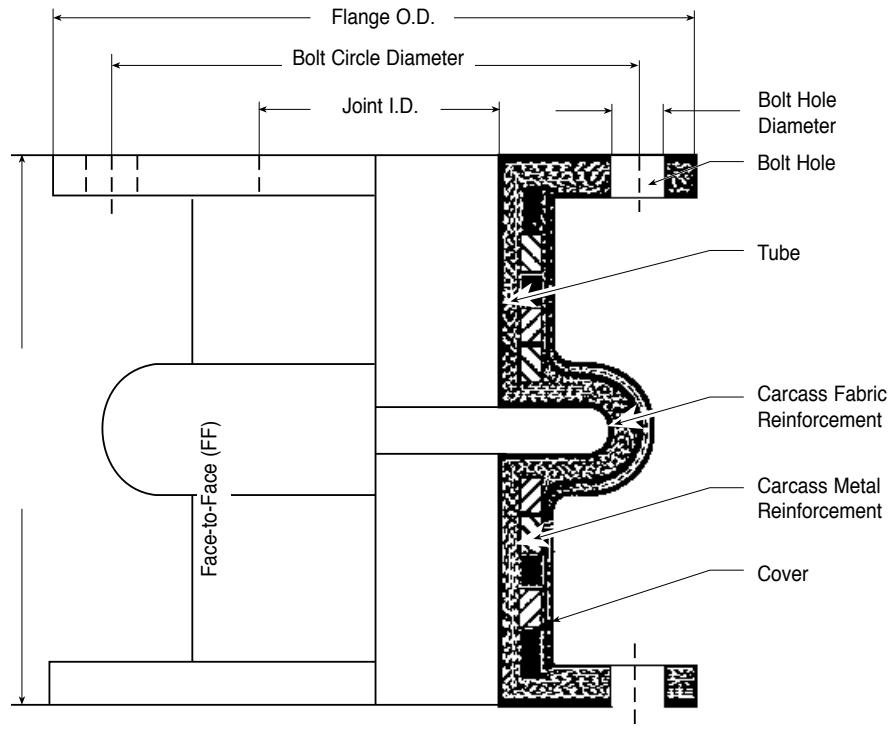
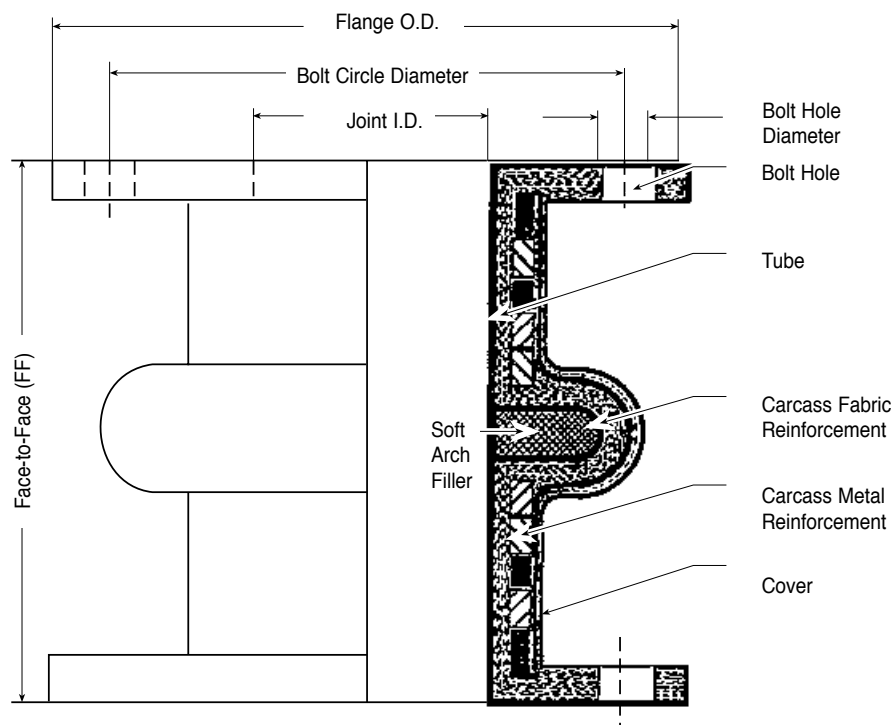
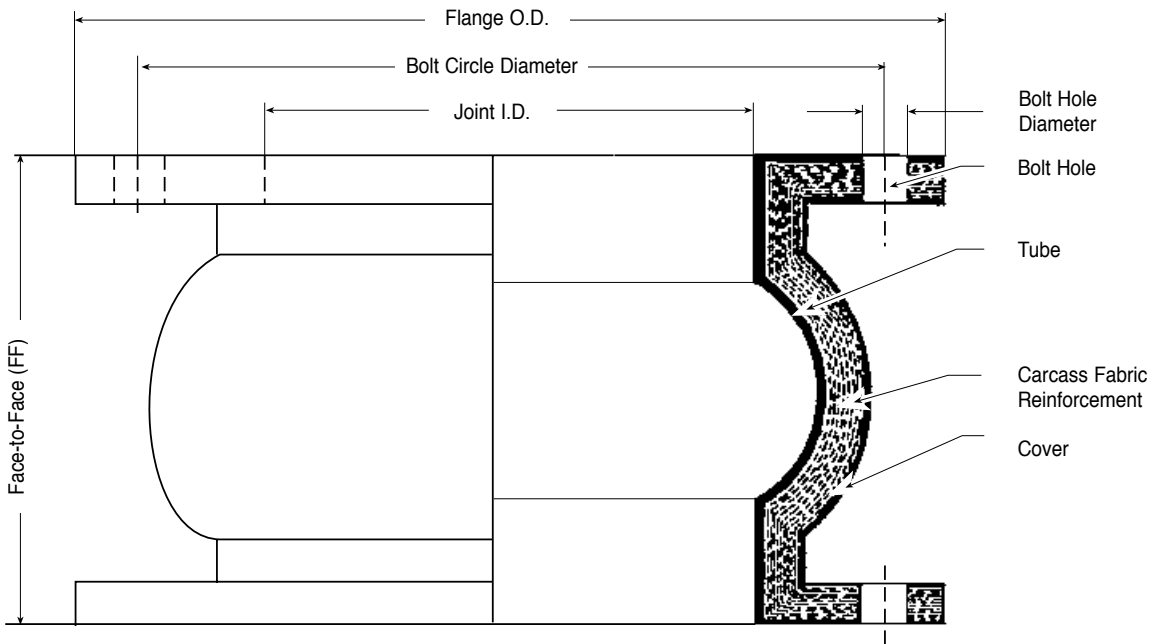
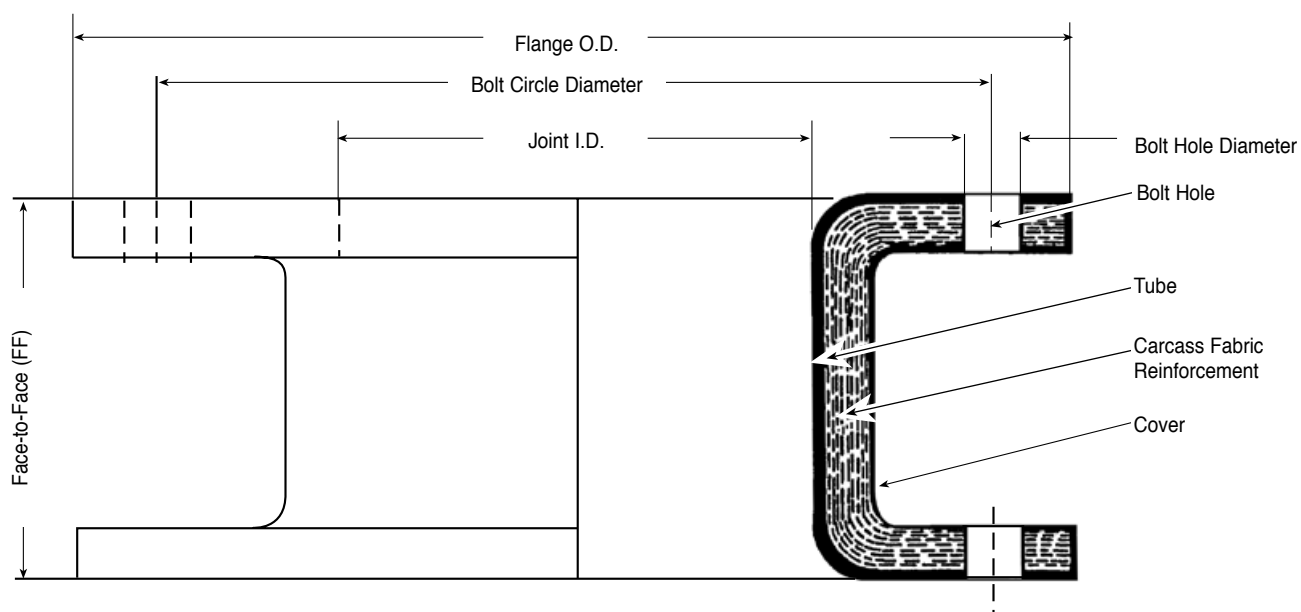

Figure 1
Figure 2
Figure 3
Figure 4
6. **Multiple Arch Type** - Expansion joints with up to four arches may be manufactured to handle greater movements than a single arch. The movement capability of a multiple arch expansion joint is typically that of a single arch type multiplied by the number of arches. (See Figures 1, 2 & Table I)
8. **Fabric/Metal Reinforced** - The strength in an elastomeric expansion joint is derived from design features, combined with rubber impregnated layers of fabric and internal metal reinforcement. (See Figures 1 & 2)
9. **Fabric Reinforcement** - In these styles, wide flowing arch (Figure 3) and U-type (Figure 4), fabric is used to effectively handle design parameters outlined.
2. **Body or Carcass** - Consists of fabric/metal reinforcement. Expansion joints with a combination of fabric and metal reinforcement are shown in Figures 1 & 2. The expansion joints in Figures 3 & 4 have fabric reinforcement only.
- b. **Metal Reinforcement** - Consists of solid steel rings imbedded in the carcass of the expansion joint. The steel rings reinforce the expansion joint and provide the dimensional stability needed for pressure or vacuum service. They are formed from AISI 1018 or other high strength materials and are either round or rectangular (see Figures 1 & 2).
The design types of elastomeric expansion joints are shown in Figures 1 thru 4. The benefits of each type are described:
Figure 1 shows a standard spool type expansion joint. The joint has one open abrupt arch, which is utilized to absorb movements in piping systems. The flanges of the expansion joint are integral with the body and are drilled to conform to the bolting pattern of the metal flanges of the pipe line. This type of rubber faced flange is of sufficient thickness to form a leakproof seal against the metal flanges without the use of gaskets.
The expansion joint is reinforced with fabric plies and round or rectangular body rings. The number of fabric plies and metal rings is directly proportional to the pressure rating of the expansion joint. Utilization of metal body rings provides the dimensional stability needed for vacuum and pressure service. Typical pressure and vacuum ratings of expansion joints in Figure 1 are listed in Appendix, Table V. Service temperature of the expansion joint depends on the materials of construction.
The open arch design of Figure 1 may be modified to reduce turbulence and to prevent the entrapment of solids. Shown in Figure 2 is a standard arch type elastomeric expansion joint manufactured with a bonded, lower durometer rubber arch filler to provide a smooth interior bore. Filled arches built as an integral part of the carcass decrease the flexibility of the joint and should be used only when necessary. Using a filled arch expansion joint reduces movement capabilities by 50%.
Figure 3 shows a self-flushing or flowing arch expansion joint. The streamlined flowing arch reduces turbulence and allows smooth, quiet flow. There is no possibility of sediment build-up and no need to fill the arch, so movement is not restricted.
The U-type expansion joints, as shown in Figure 4, are primarily designed for full vacuum service with a maximum pressure rating of 25 psig (1.7 bar) and temperature of 250°F (121°C). These joints are constructed of several plies of polyester fabric and rubber without metal reinforcement.